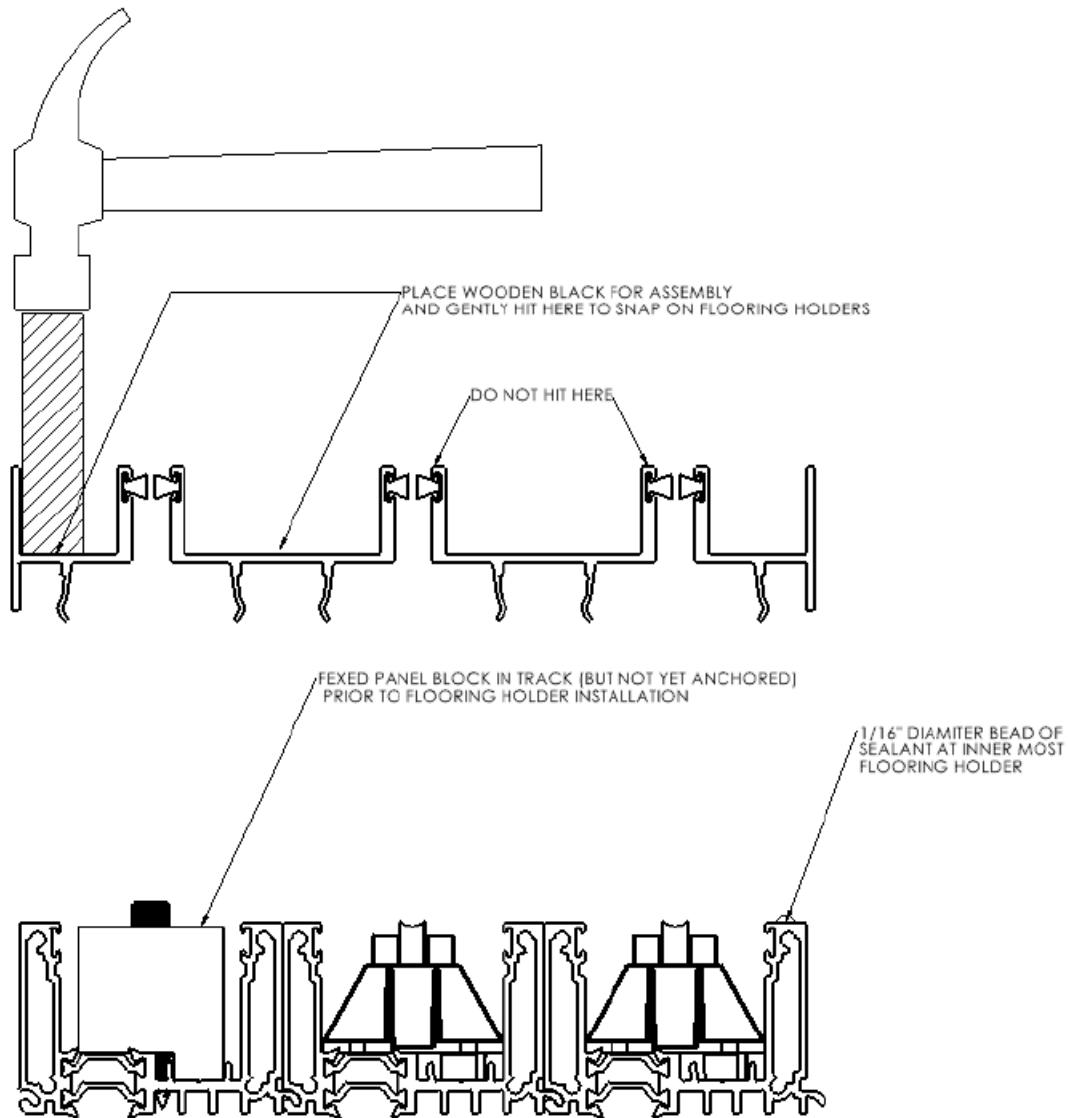

Figure 10
17. Snap the Flooring Holder extrusions onto the lower half of the sill with a block of wood and hammer. Place the block of wood between the vertical legs of the flooring holder to avoid damage. Start at one end of the extrusion and slowly work down the length of the whole sill to avoid bending the flooring holders. The flooring holders can be ordered long to allow them to be cut to shorter lengths at installation to allow for easier service based on flooring types. See **Figure 10**.